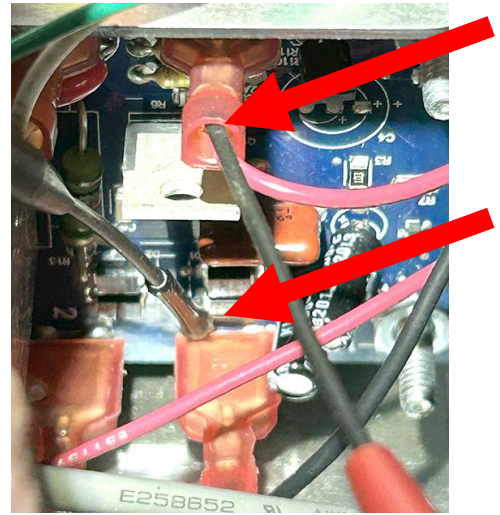

Figure 8
- i. Test across pins 1 (Red) & 8 (Black) (see Figures 8, 10 & 11). 24VDC should be present with the switch activated.